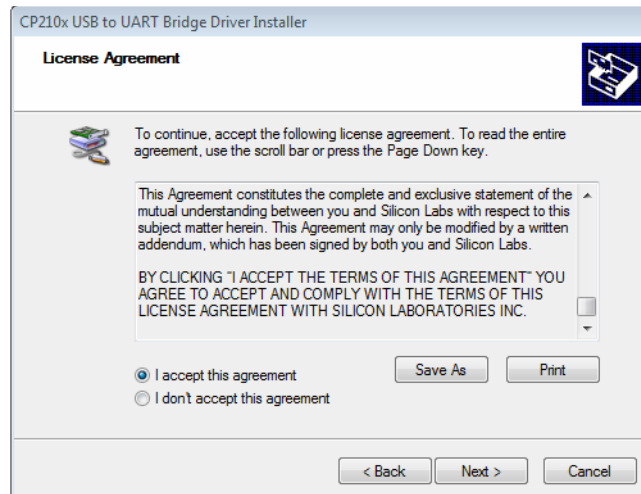

FIG. 11
17. When the installation is complete the screen shown in FIG. 11 displays. Before Matrix functions on the PC you will have to reboot the computer. Select Yes, I want to restart my computer and click the **Finish** button to reboot.